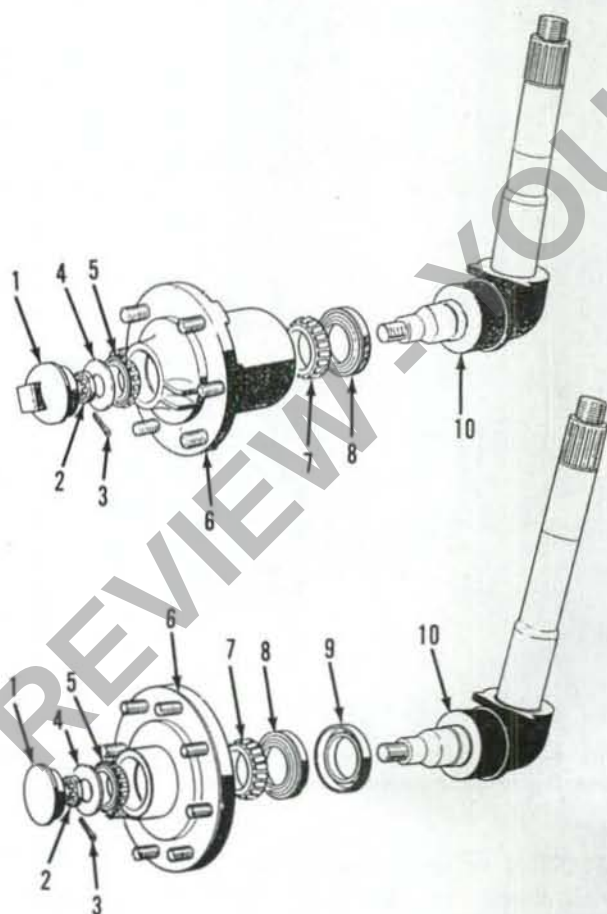

Fig. 1—Exploded view of front wheel hub used on two wheel drive models. Mud shield (9) is used only on 8240 and 8340 models.
1. WHEELS AND BEARINGS. To remove front wheel hub and bearings, first raise and support the front axle extension, then unbolt and remove the tire and wheel assembly. Remove the cap (1—Fig. 1), cotter pin (3), slotted nut (2), washer (4) and outer bearing cone (5). Slide the hub assembly (6) from spindle axle shaft (10). Remove grease retainer (8) and inner bearing cone (7). Hub is slotted to facilitate removal of bearing cups.